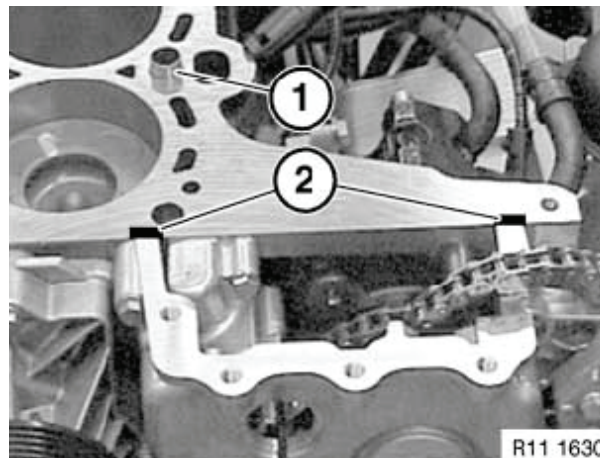

Figure 5-36
- Check condition and placement of alignment dowel sleeves (**Figure 5-36, (1)**).
- Ensure the gasket surfaces of the cylinder head and cylinder block are clean and dry. Transition areas (**Figure 5-36, (2)**) must be absolutely clean of grease and oil. **NOTICE:** *Ensure the threaded bolt holes are clean and dry. If coolant or oil remains in the holes, there is a risk of cracking the cylinder block when the bolts are installed.*